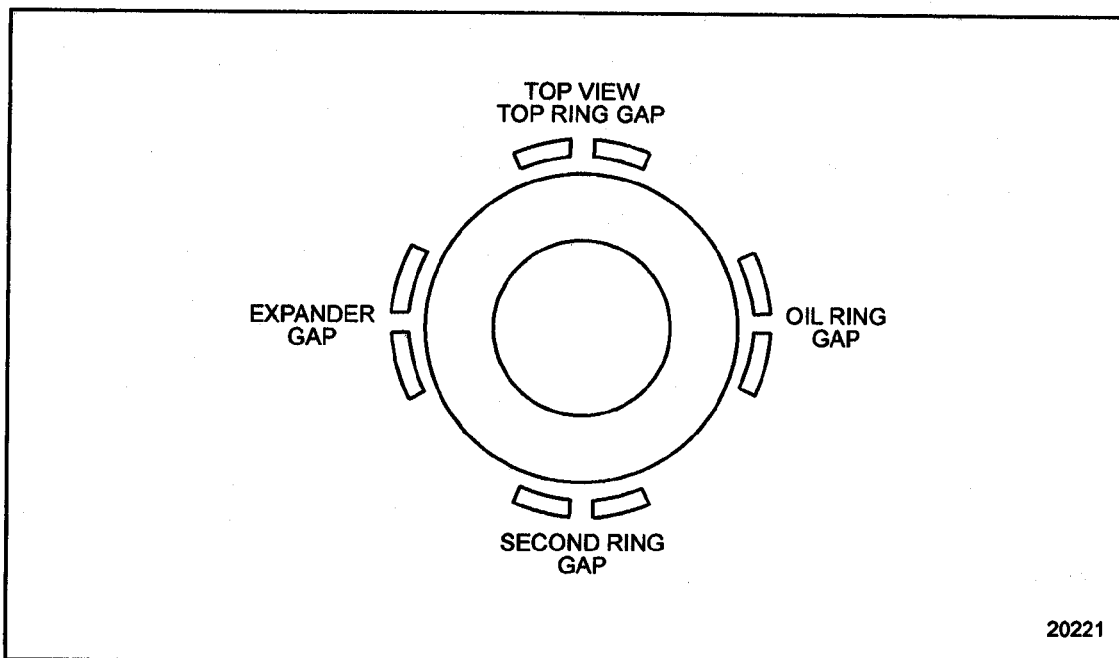

Figure 1-272 Piston Ring Positioning (Diesel)
5. Remove assembly from pan and position (stagger) the piston ring gaps properly on the piston at 90 degree intervals. See Figure 1-272 for diesel engines.